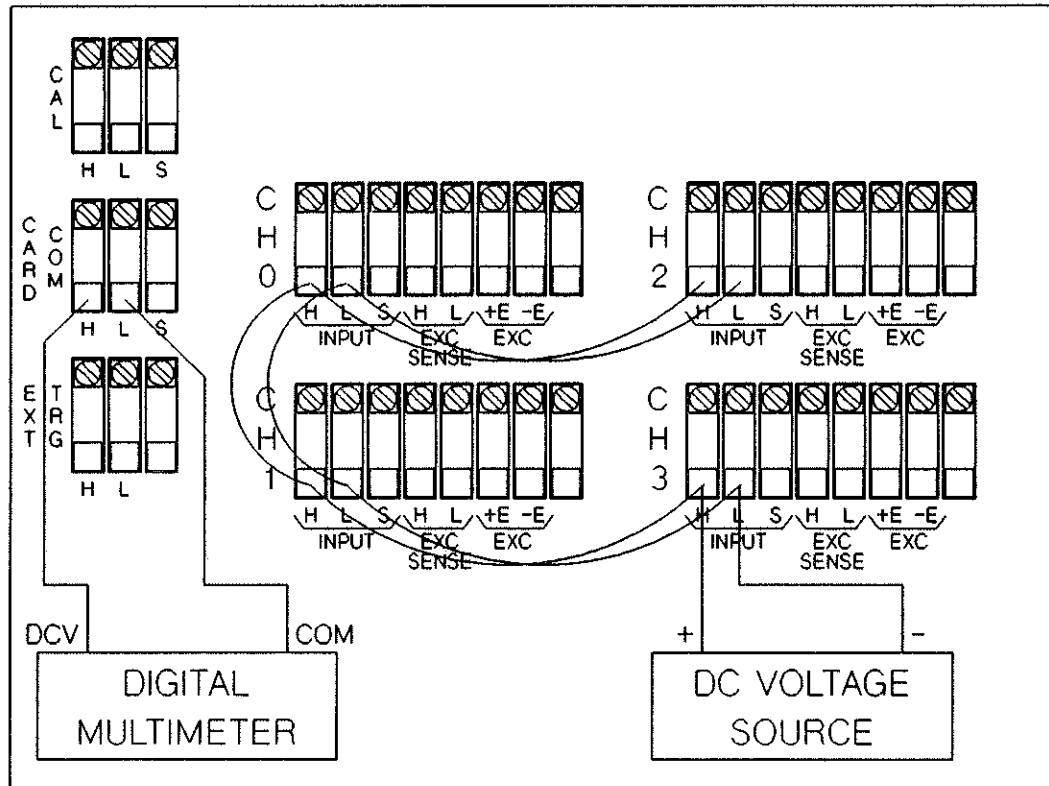

Figure 20-4 DC Voltage Source Connections
4. Refer to Figure 20-4. Connect the digital multimeter to the CARD COM H and L output terminals on the test fixture. Connect the dc voltage source to the H and L Input Connections on the test fixture.
14. Refer to Figure 20-4. Connect the digital multimeter to the CARD COM H and L output terminals on the test fixture. Connect the dc voltage source to the H and L Input Connections on the test fixture.
21. Refer to Figure 20-4. Connect the digital multimeter to the CARD COM H and L output terminals on the test fixture. Connect the dc voltage source to the H and L Input Connection on the test fixture.
2. Refer to Figure 20-4. Connect the digital multimeter to the CARD COM H and L output terminals on the test fixture. Connect the dc voltage source to the H and L Input Connections on the test fixture.